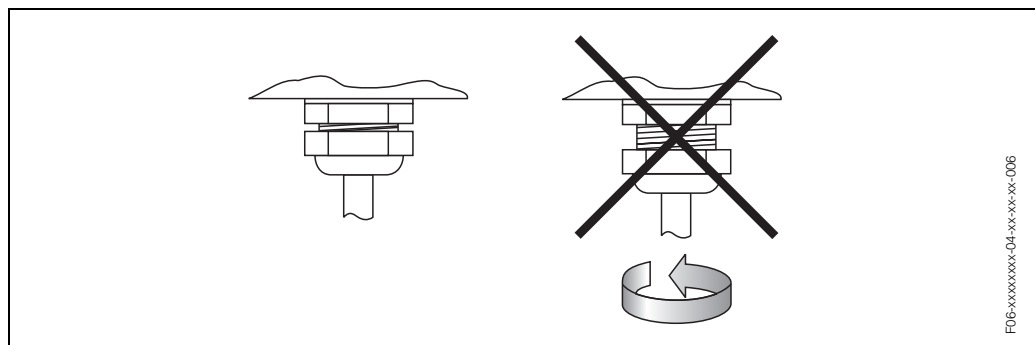

Fig. 22: Installation instructions for cable entries on the transmitter housing
- Firmly tighten the cable entries (Fig. 22).